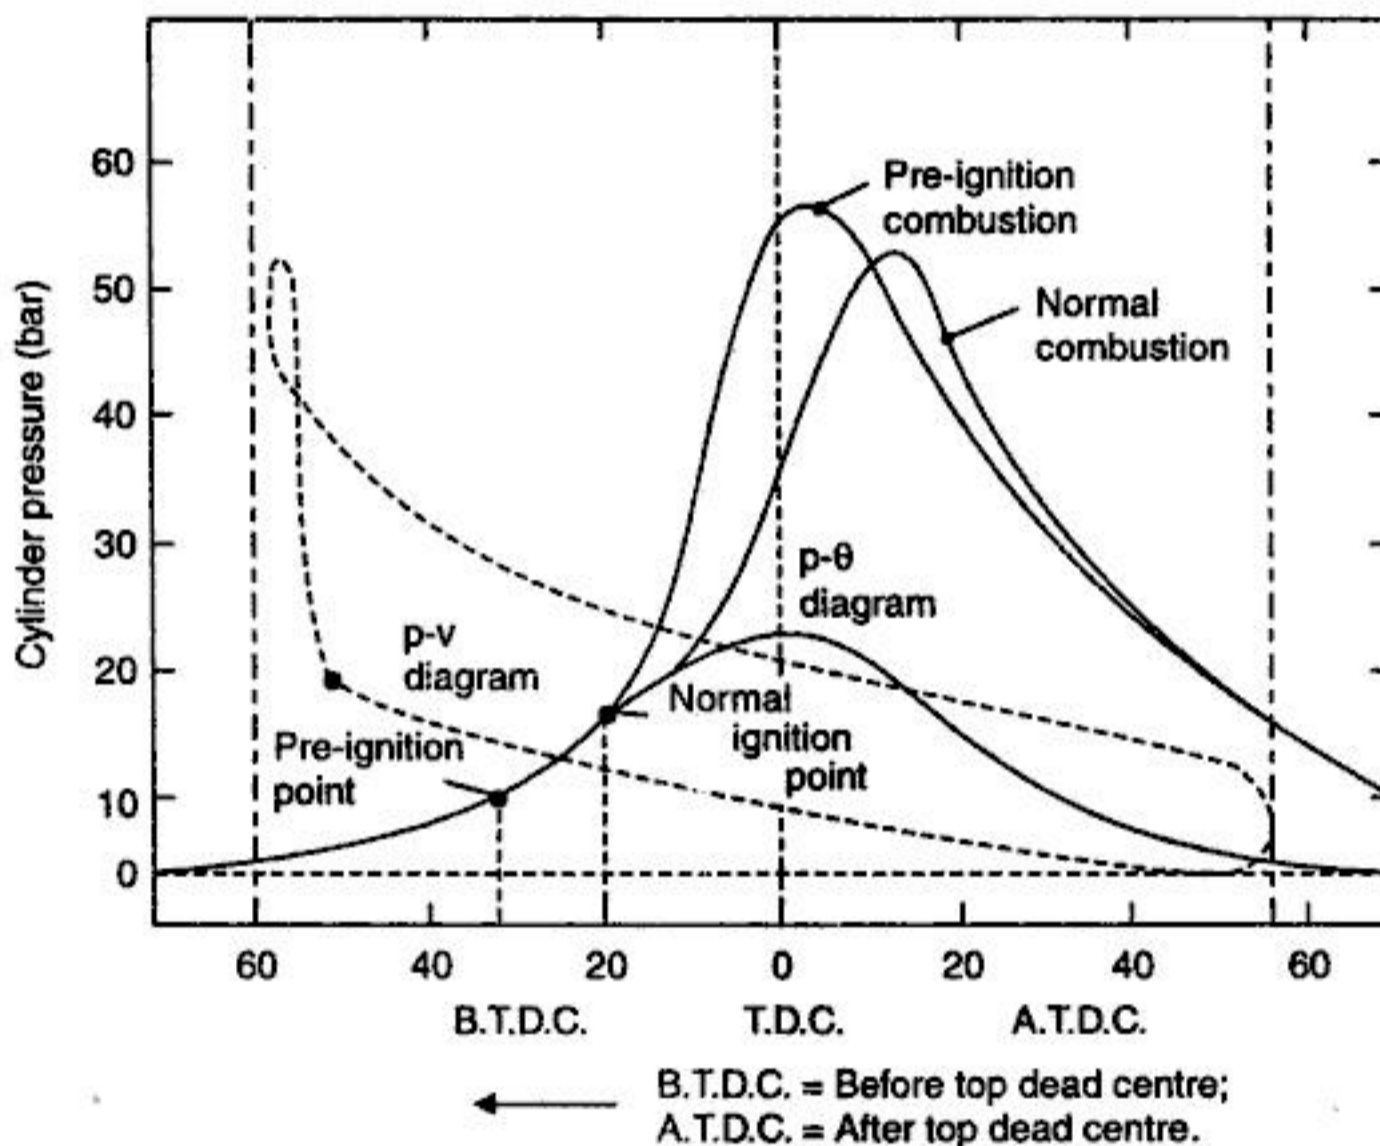

Fig. 5.5. Cylinder pressure variation when pre-ignition occurs.
- The accumulated effects of an extended combustion time and rising peak cylinder pressure and temperature cause the self-ignition temperature to creep further and further ahead of T.D.C., and with it, peak cylinder pressure, which will now take place before T.D.C. so that **negative work will be done in compressing the combustion products** (Fig. 5.5).